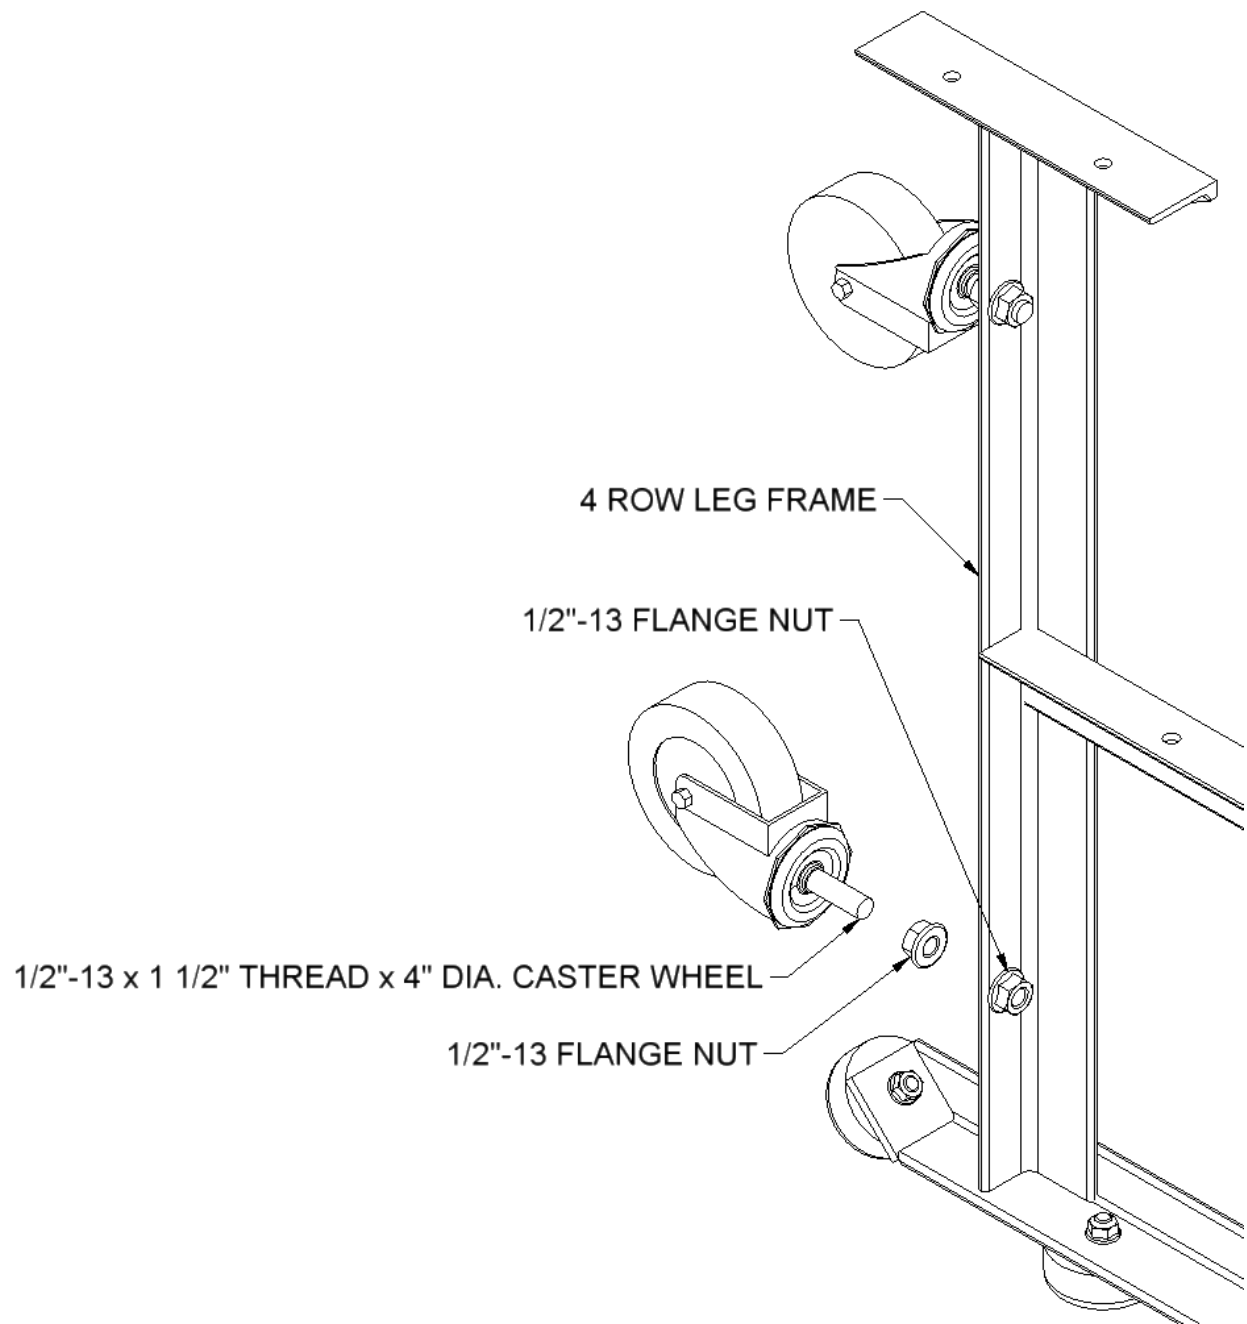

Figure 2
2. Install two (2) wheel casters on the backside of each frame as shown in figure 2 - fully thread caster stem on, but tighten only finger tight.